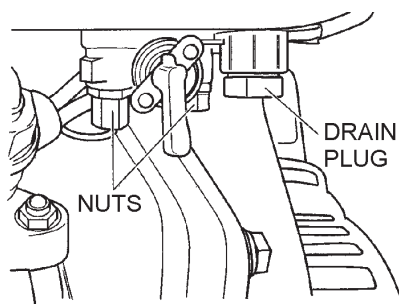

Figure 35. Fuel Filter
1. Clean the fuel filter (Figure 35) every 3 months or 200 hours.